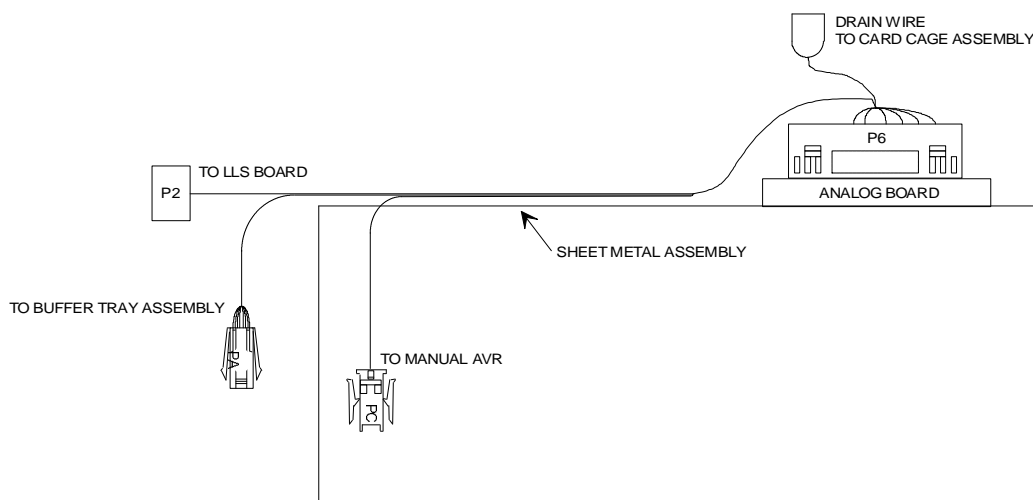

Figure 2: LLS/Analog Cable Assembly
1. Connect the LLS/Analog Cable Assembly connector PA to the Buffer Tray Assembly connector JA. See (Figure 2)
5. Route the cable along the base and secure with the two (2) cable clamps.
4. Attach the cable from AVR J6 to LLS/Analog Cable Assembly Cable connector PC (Figure 2).